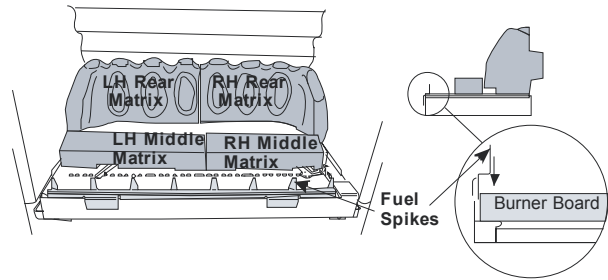

Figure 24
- Place the **middle matrix** onto the burner board so that it keys into the triangular depression on the board (see **Figure 24**).
- Insert the front fuel spike between the board and the front of the metal tray (see **Figure 24**).